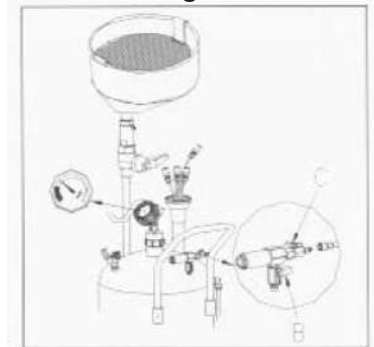

Fig. 5
- c. Connect compressed air to the quick connect coupling. When the vacuum - gauge indicator comes onto the green band and stops (approx. 30-40 seconds), closed valve B and C and disconnect the air supply. (See Fig. 5)